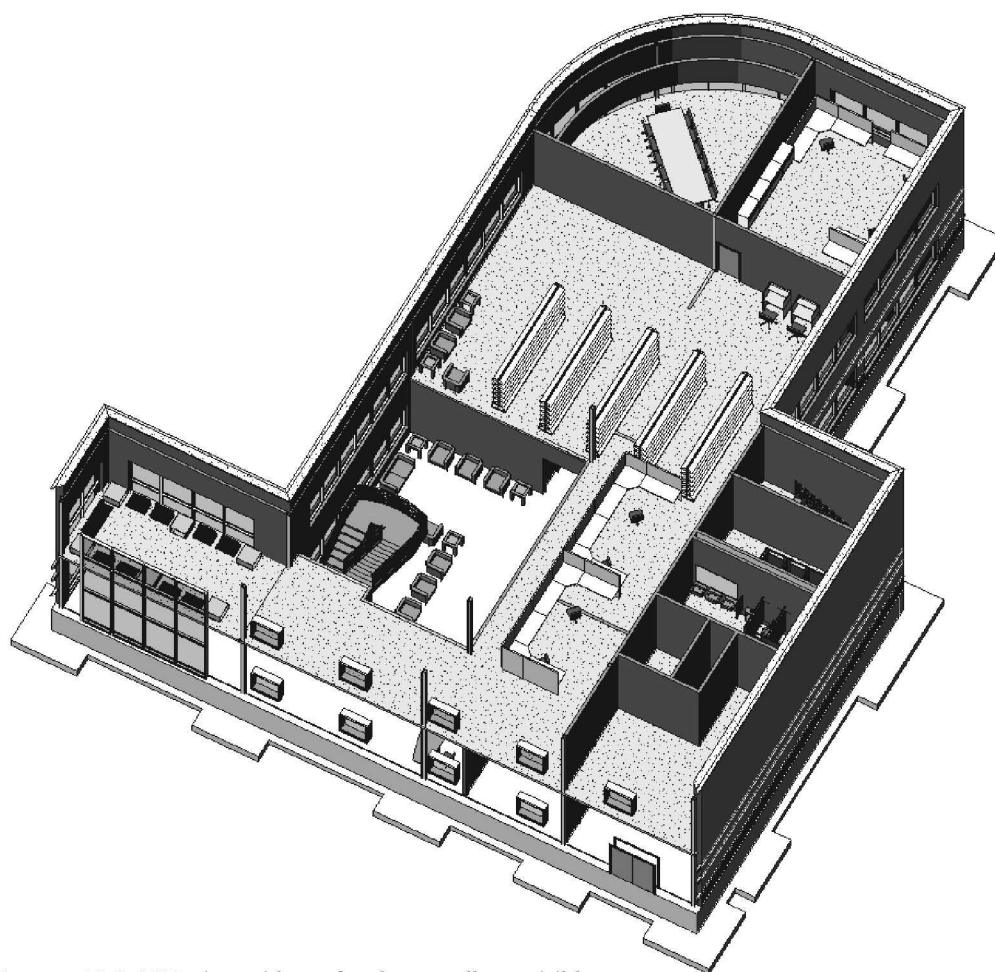

FIGURE 11-3.4 3D view with roof and one wall not visible
11. Adjust your **3D** view to look similar to **Figure 11-3.4** by clicking and dragging your mouse on the *ViewCube*.